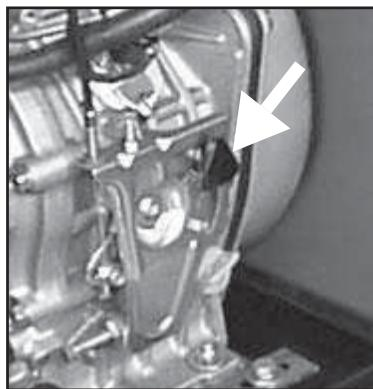

Fig.7
- 2) Yanmar engine models: Position the accelerator handle on the engine (see fig. 7) back upwards. Wait until the engine is completely off. Turn the key to the "OFF" position.